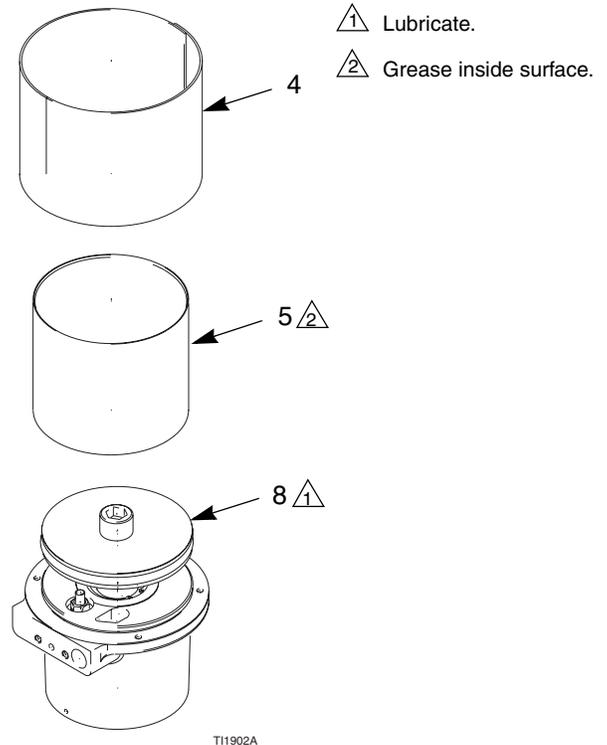
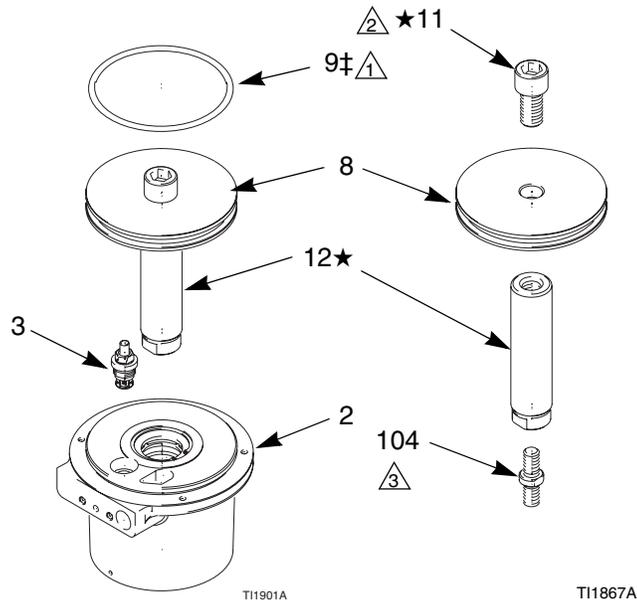

FIG. 9. Side Cover and Cylinder
FIG. 10. Air Motor Piston
4. Remove the side cover (4) and cylinder (5). Inspect the inside surface of the cylinder for scratches or other damage. See FIG. 9.
5. Pull the piston (8) and rod (12) straight out of the air motor base (2). Do not tilt the piston to prevent damage to the rod. Remove the o-ring (9) and pilot valve (3). See FIG. 10.
6. Inspect the piston rod (12) for wear or damage. If the rod is damaged, disassemble the piston assembly. Keep the connecting rod (104) and the piston (8) for reuse. Discard the piston rod (12) and the cap screw (11). These parts must be replaced together.
2. If the piston was disassembled, reassemble the cap screw (11★), piston (8), rod (12★), and connecting rod (104). See FIG. 10. Make sure the flat side of the piston faces up. Torque the cap screw to 150-163 N•m (110-120 ft-lb) using Loctite® from kit on threads. Torque the connecting rod to 61-68 N•m (45-50 ft-lb).
3. Install the pilot valve (3) in the base (2). Place the o-ring (9‡) on the piston (8). Grease the piston rod (12) and o-ring (9), and carefully lower the piston into the base.
4. Generously grease the lower half of the cylinder's (5) inside surface. Install the cylinder and the side cover (4). See FIG. 9.